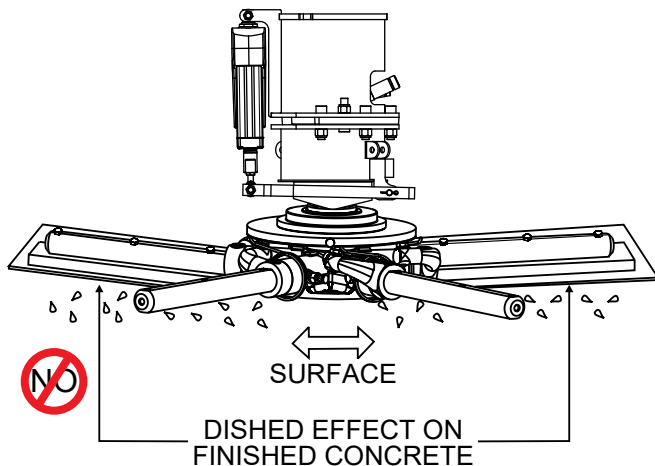

Figure 41. Incorrect Spider Alignment
3. If any adjustment bolts are not making contact with the lower wear plate, adjustment will be necessary. Figure 41 illustrates incorrect alignment, worn spider bushings, or bent trowel arms.